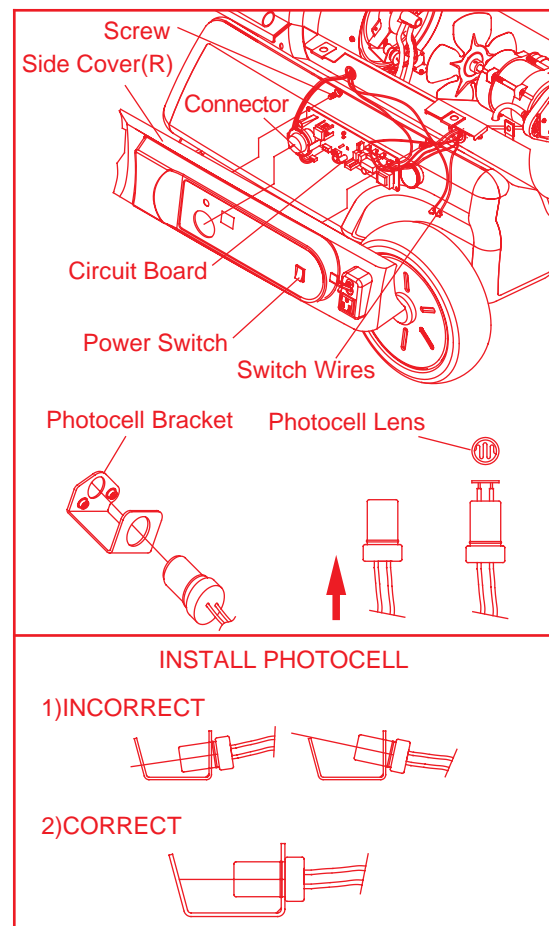

Figure 19. Replace & Cleaning Photocell
- These Screws attach Main PCB to Side Cover.(See Figure 19)
- Replace Circuit Board to Side Cover(R) and Switch wires to Power Switch.